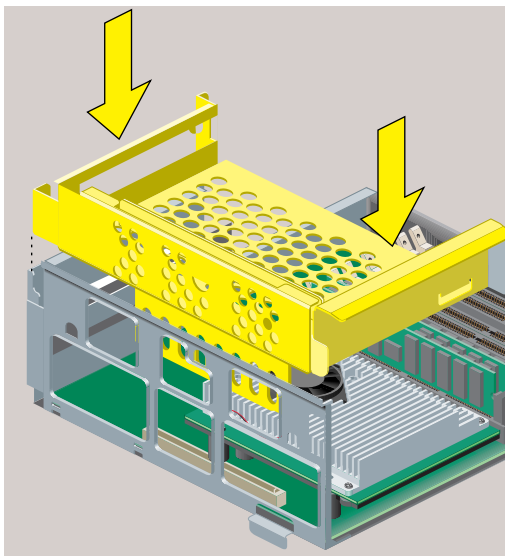

Figure 5-16 Replacing the PCI Tray in the R10000 System Module
- Lower the PCI tray, engaging it on the tab on the side of the system module (Figure 5-16).